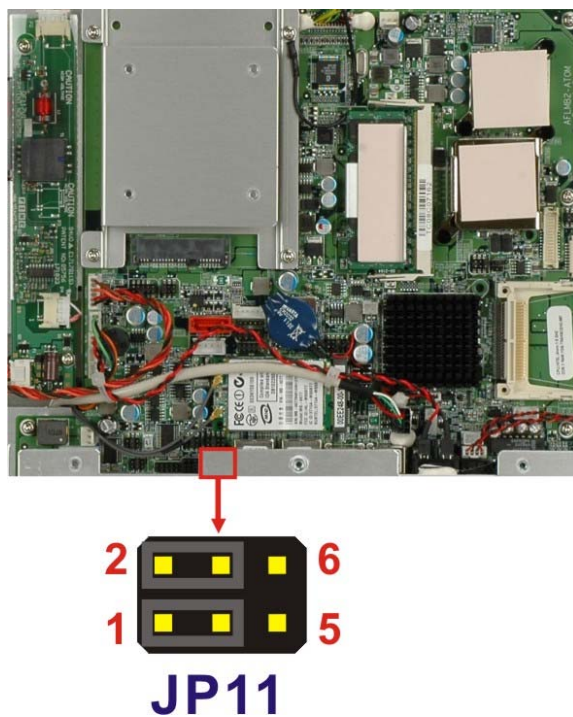

Figure 4-10: COM3 TX Function Select Jumper Pinout Locations
- Jumper Location:** See **Figure 4-10**
The COM3 TX Function Select jumper location is shown in **Figure 4-10** below.